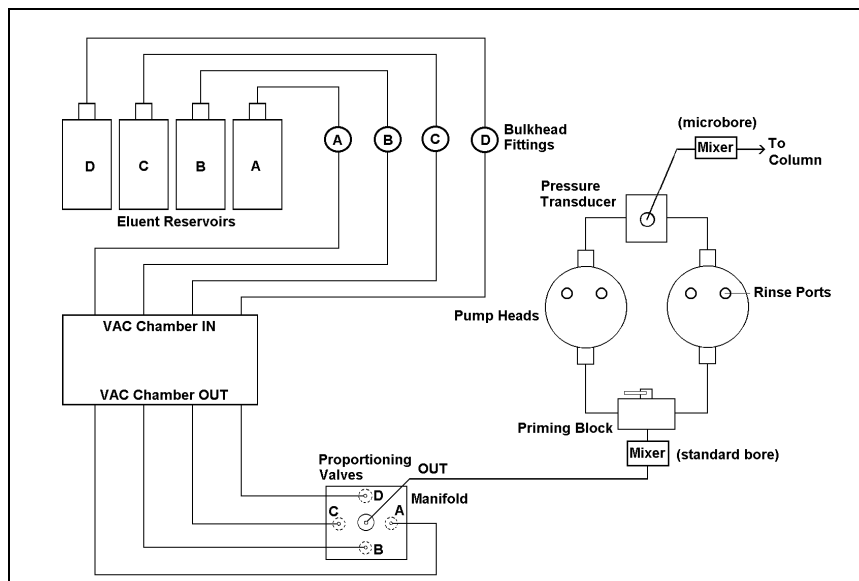

Figure 3-19. Eluent Flow Schematic
- Check the entire mechanical chassis for leaks from the rinse ports, the eluent manifold connections and valves, the vacuum degas chamber, the bulkhead fittings, and the eluent reservoirs (see Figure 3-19). Tighten or replace any leaking fittings. Wipe up liquid spills and rinse dried reagents off the pump components with deionized water.
- **Leaks from any connection between the eluent reservoir and the pump heads indicates an eluent leak (see Figure 3-19)**